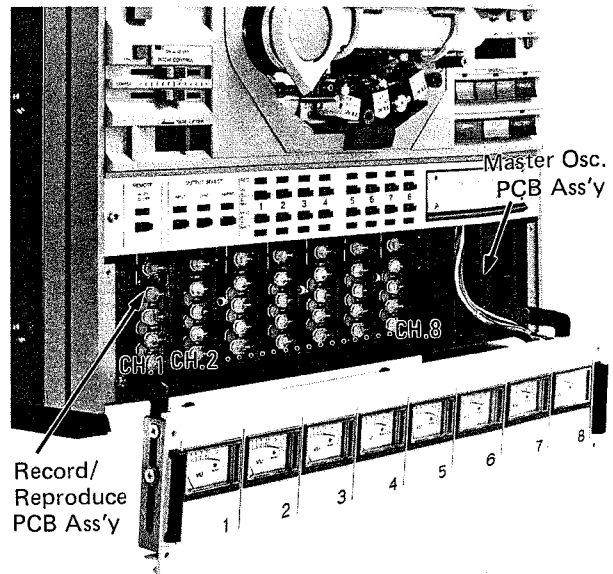

Fig. 7-30. Opening the Front Panel of the Amplifier Section
- * To get at the trim pots for record/reproduce amplifier circuit adjustments, open the service door by removing the two set screws, one on each side of the front door. (Refer to Fig. 7-30) With the cover removed, you will see the amplifier boards to which the trim pots are mounted as shown in the photograph. The boards are identical, and are exclusively used for their respective channels. (The rightmost PCB is the Master Osc. PCB Ass'y.)